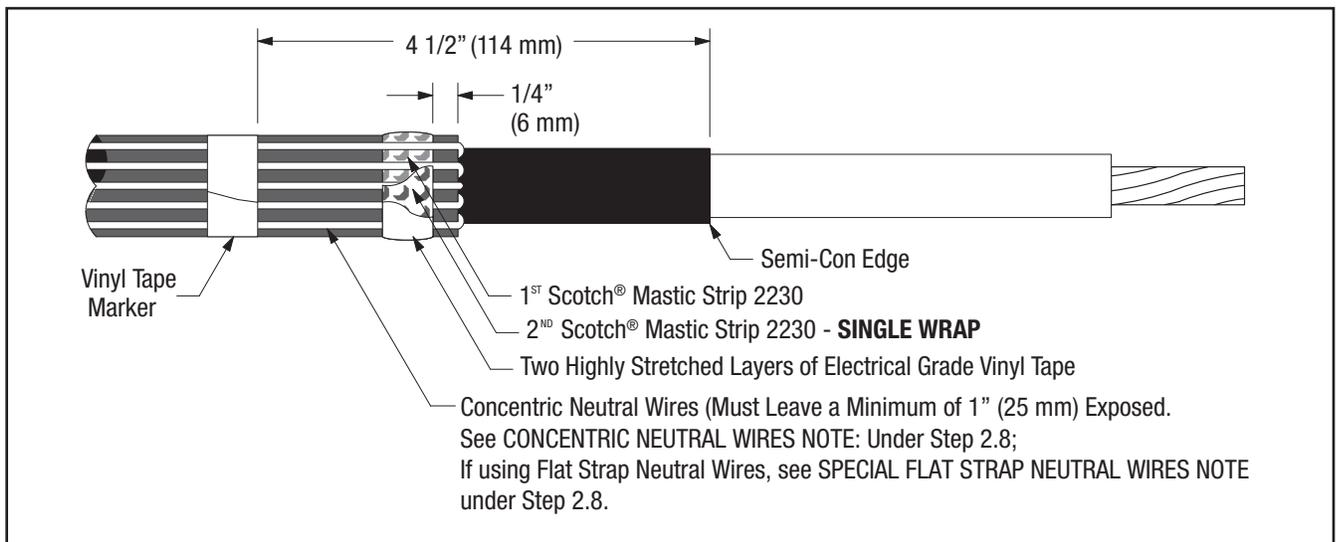

Figure 3
- 2.6 Bend neutral wires back over applied sealing mastic and secure to cable jacket **4 1/2" (114 mm)** from cable semi-con edge using vinyl tape (see NOTE and Figure 3).
- 2.7 Select second Scotch® Mastic Strip 2230 from kit and remove white release liners. Apply a second **SINGLE WRAP** of mastic over the neutral wires and previously applied mastic (Figure 3). Cut off excess.
- 2.8 Compress neutral wires into mastic by over-wrapping seal strips with two highly stretched layers of electrical grade vinyl tape (Figure 3). **Be sure to cover all exposed mastic AND TO READ THE CONCENTRIC NEUTRAL WIRES NOTE, OR THE SPECIAL FLAT STRAP NEUTRAL WIRES NOTE, BELOW CONCERNING APPLICATION OF THE TWO HIGHLY STRETCHED LAYERS OF ELECTRICAL GRADE VINYL TAPE.**